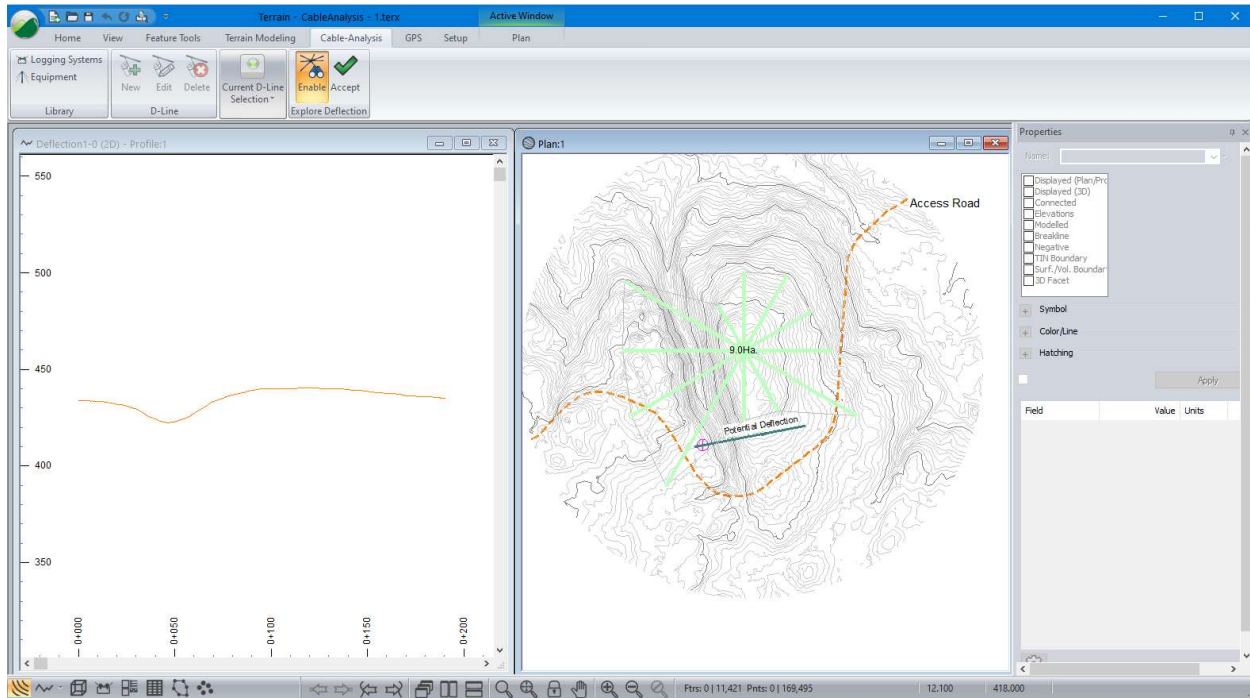

Figure 4-3: View of the Explore Deflection tool in use.
7. In the Plan view, the curser symbol  will have changed. Click near the center of the topo surface to see radial D-Lines extending out from that point as shown in Figure 4-3.